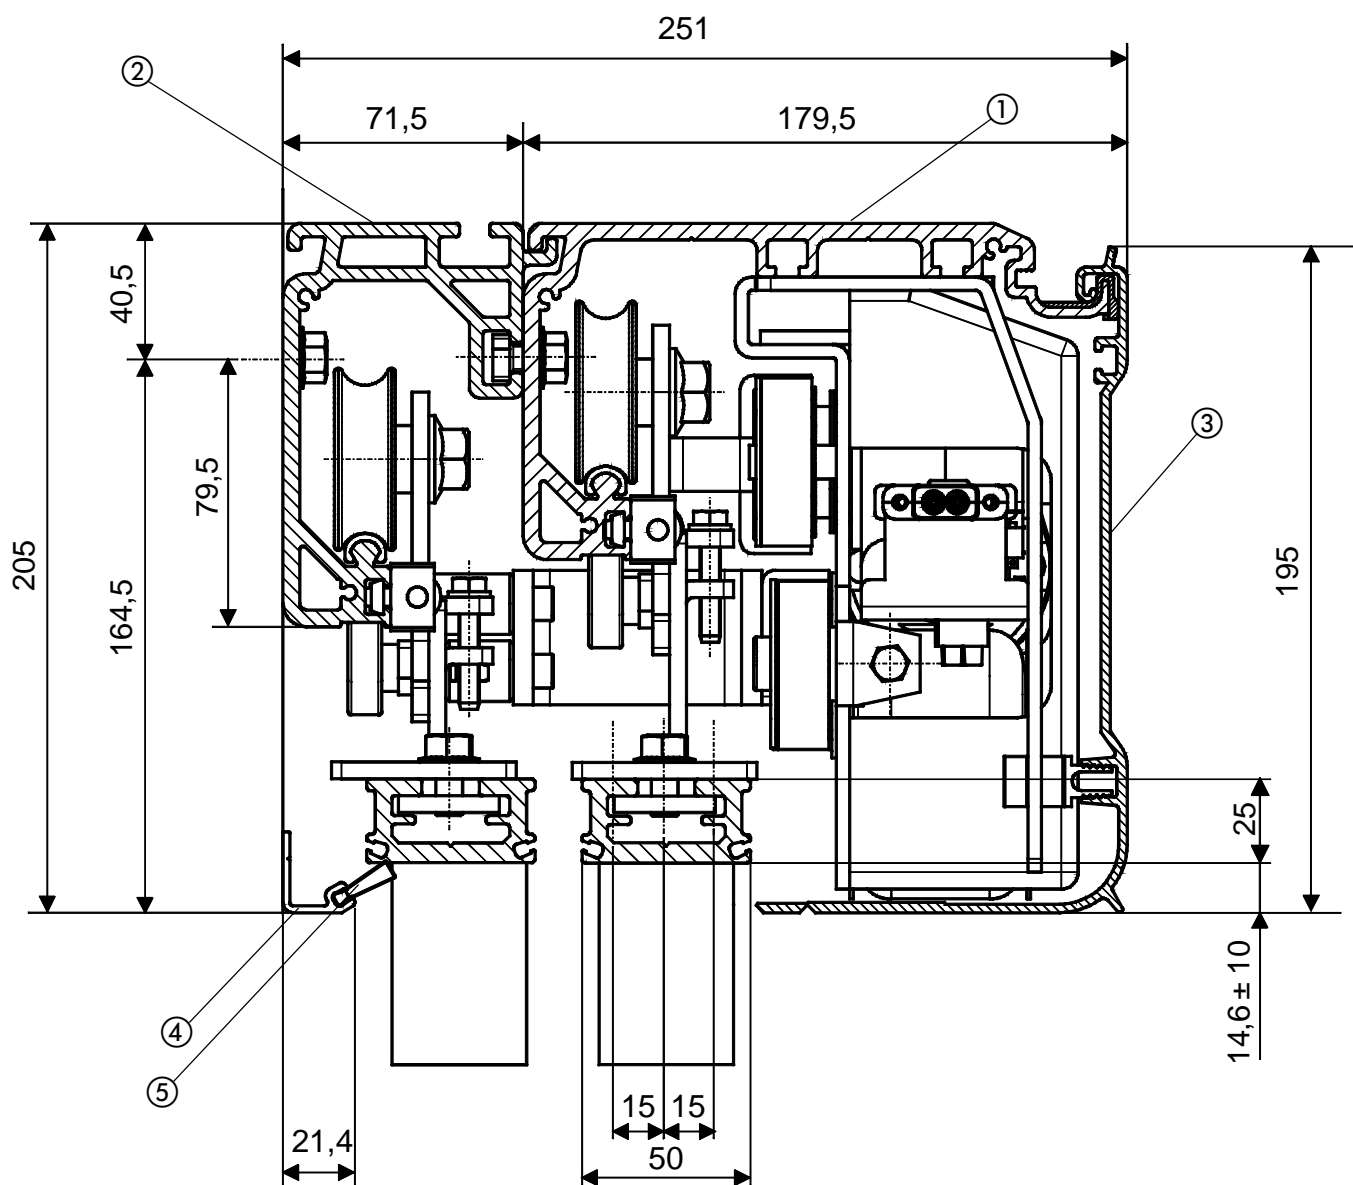
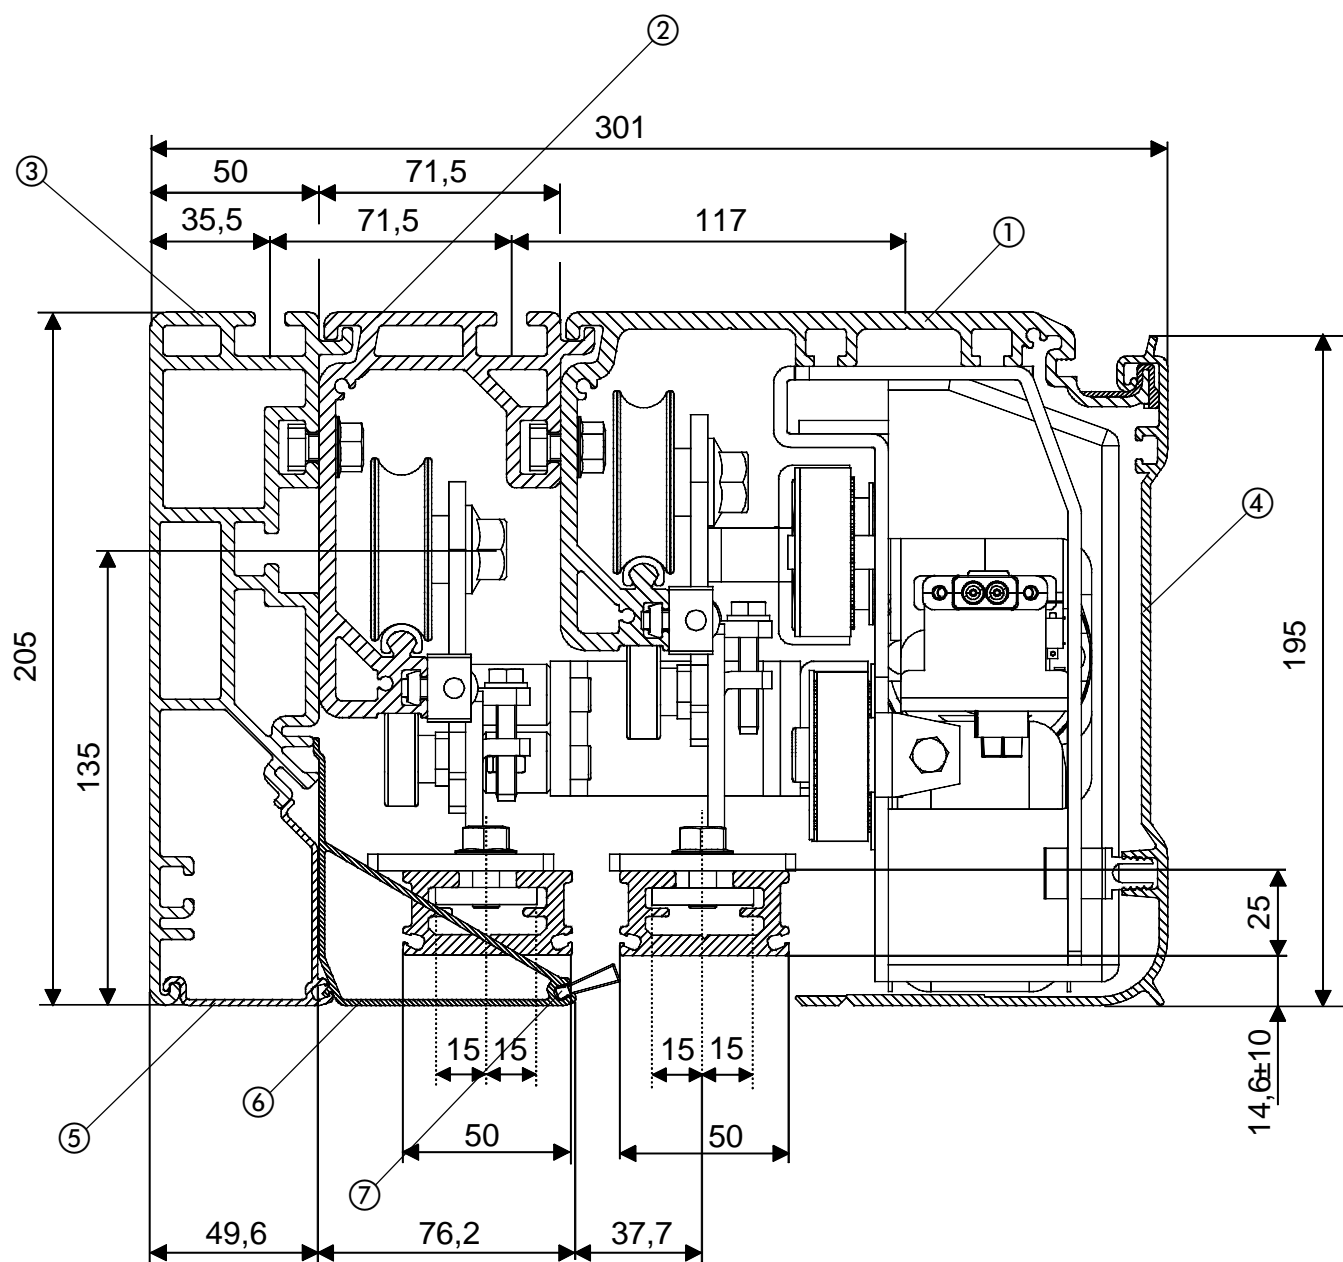

Fig. 2
Fig. 3
### Profile SM (fig. 2 and 3 ref. ①)
### Telescopic profile (fig. 2 and 3 ref. ②)
### Profile SMA (fig. 3 ref. ③)
### Front housing (fig. 2 ref. ③ and fig. 3 ref. ④)
### Closing profile (fig. 2 ref. ④)
### Closing profile for free-standing facility (fig. 3 ref. ⑤)
### Brush for closing profiles (fig. 2 ref. ⑤ and fig. 3 ref. ⑦)